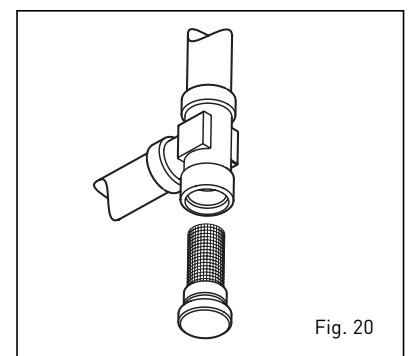

Fig. 20
4.5.2 Cleaning the "Aqua Guard Filter System" (fig. 20)